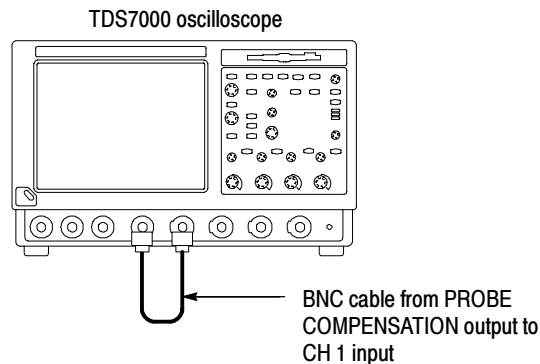

Figure 1-9: Setup for the file system test
2. *Hook up the signal source:* Connect the BNC cable from the probe compensation output to the CH 1 input as shown in Figure 1-9.